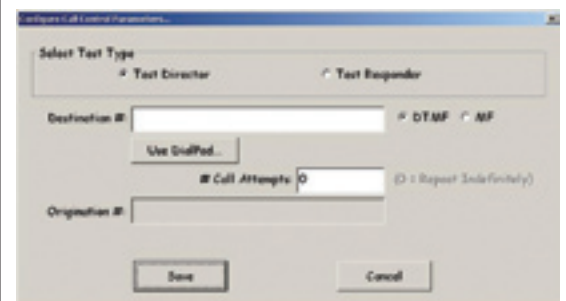

Figure 37
4. From the main test screen click the configure button next to the call setup field. This action launches the configure call parameters window, choose “Test Director” as the test type and enter the destination number (see figure 37). Click save to close the window.